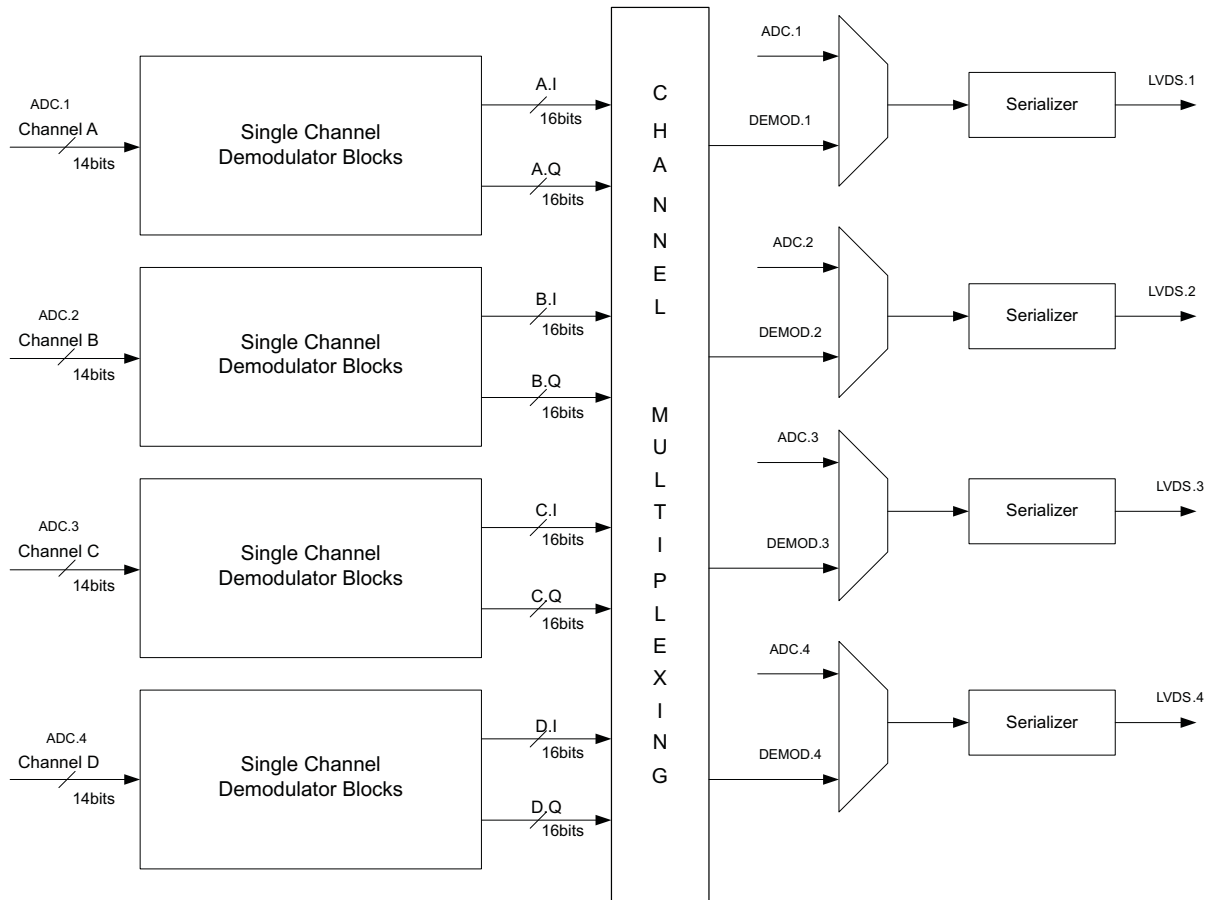

Figure 86. Channel Multiplexing
3. Decimator Block has two functions, Decimation Filter and Down Sampler. Decimation Filter is a variable coefficient symmetric FIR filter and its coefficients can be given using Coefficient RAM. Number of taps of FIR filter is $16 \times$ decimation factor (M). For decimation factor of M , $8M$ coefficients have to be stored in Coefficient Bank. Each coefficient is 14 bit wide. Down-sampler gives out 1 sample followed by $M-1$ samples zeros.
4. In Figure 86, channel multiplexing is implemented for flexible data routing. :